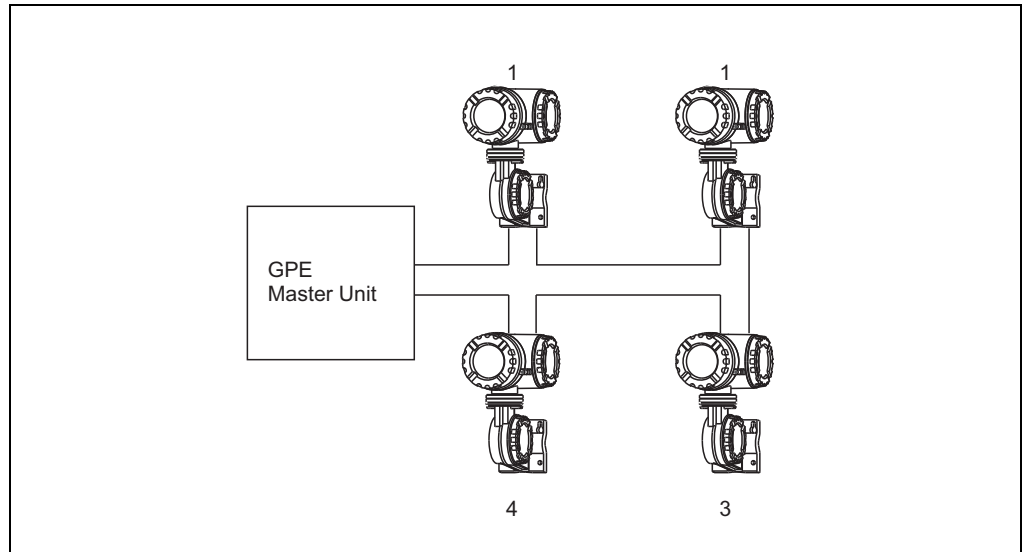

Figure 3-1: Serial Connection Topology for the GPE Protocol
- Connect the gauges using a serial topology as shown in Figure 3-1.